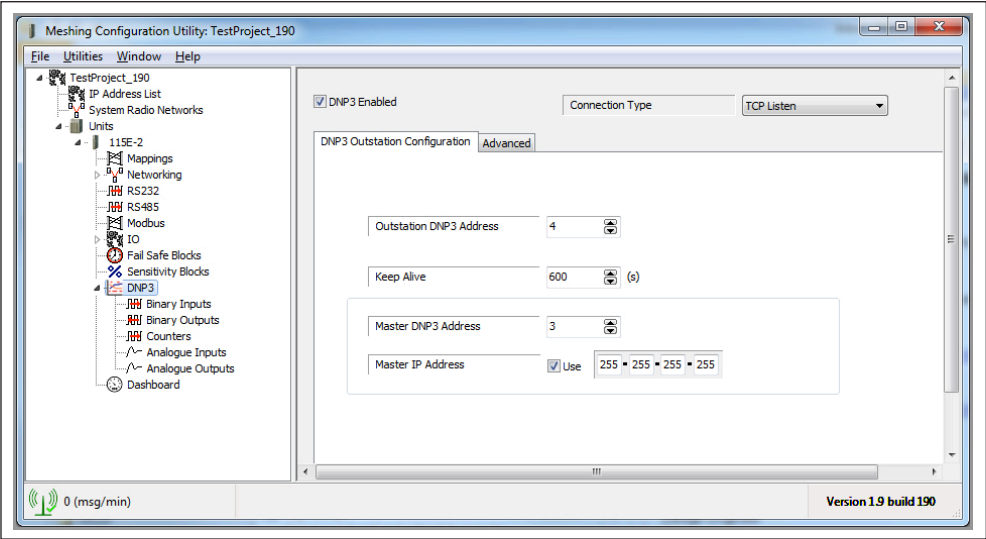

Figure 61. DNP3 address configuration
- For most systems, you will only need to enable the DNP3 outstation function and set the outstation DNP3 address and connection type. To access DNP3 configuration, click **DNP3** in the CConfig project tree to display the screen in **Figure 61**.